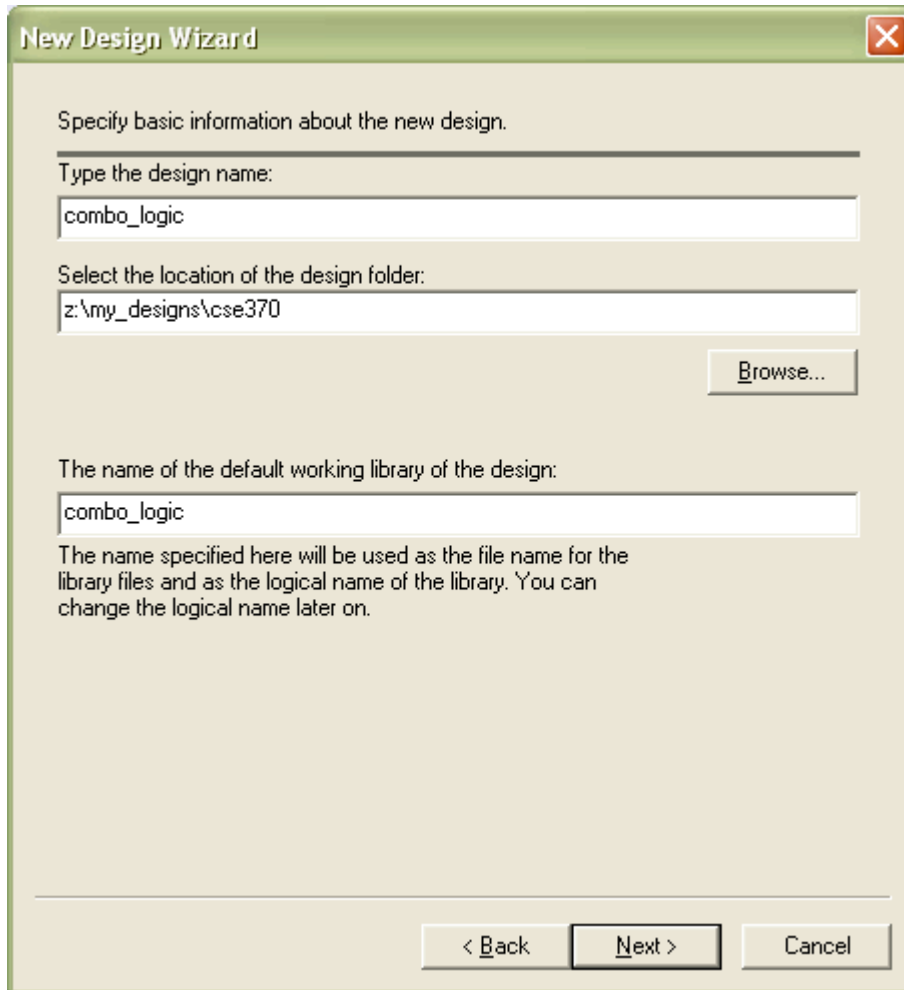

Figure 5
3. In the “Type the design name” field, type a name for your new design. **The name must contain only letters, numbers, and underscores (“_”), and cannot start with a number (i.e. 4bitadder is invalid, however four_bit_adder is valid).** Use **descriptive** names that do not match file names, other design names, or workspace names. By default, the design directory is under the workspace directory, and the name of the default working library of the design is the same as the design name. Leave these default values alone. **Warning: the directory path should not contain any spaces in it.** Your window should look like Figure 5 with a more descriptive name than “combo_logic”.